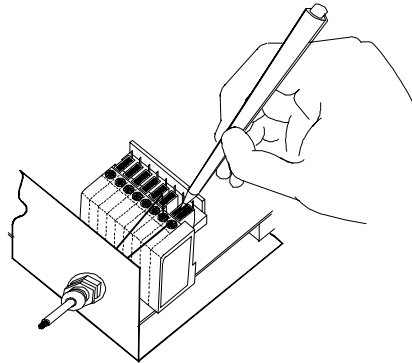

Figure 2.8 - System cable connections to the junction box
- Using a screwdriver or other tool, push down on the orange lever directly above the clamp (see Figure 2.8).